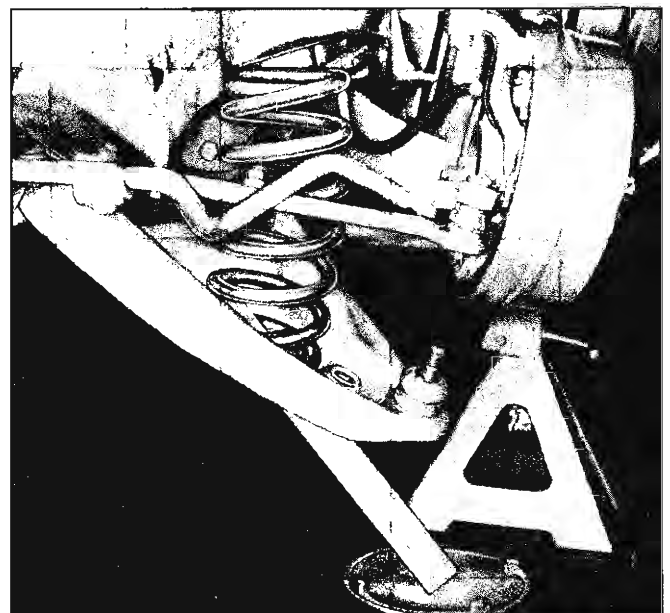

Fig. 22—Front Spring Removal—Chevelle
5. Lower control arm as shown in Figure 22, until spring can be removed.
1. Properly position the spring on the arm and with the steel bar in place, as shown in Figure 22, lift the arm up until the ball stud may be installed in the knuckle. Install the nut and cotter pin.